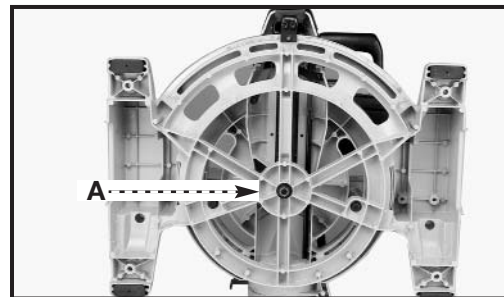

Fig. 15
To adjust the sliding fit between the movable table and the base, turn the nut (A) Fig. 15 clockwise to tighten the fit (counter-clockwise to loosen the fit). This adjustment should not be so tight that it restricts the rotating movement of the table, or so loose that it affects the accuracy of the saw.